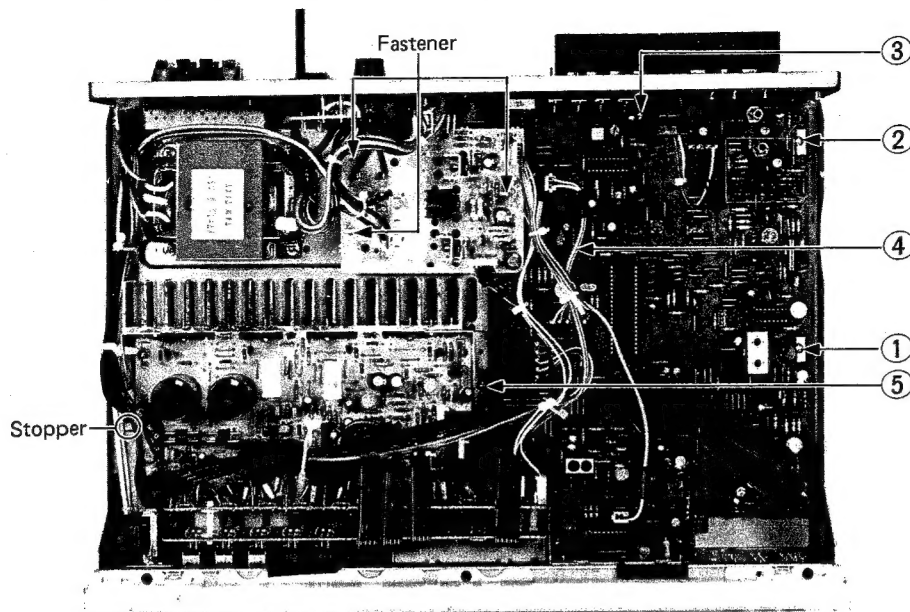

Fig. 4
- (1) Remove the power supply P.C. board from fastener.
- (2) Remove screws ① - ⑤ on the P.C. board. (Fig. 4)